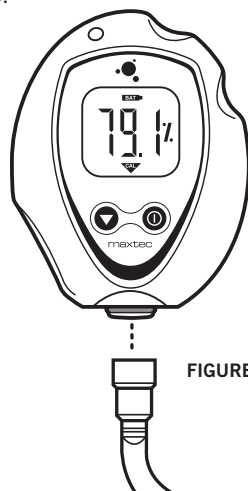

FIGURE 2
1. Connect the Tygon tubing to the bottom of the analyzer by threading the barbed adapter onto the oxygen sensor. (FIGURE 2)